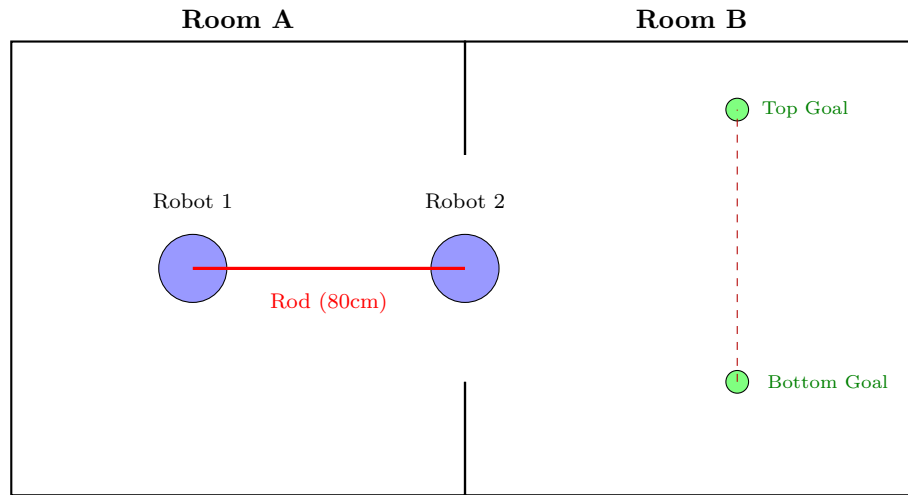

Figure 2: Task3 top view. Green circles indicate the target positions for the rod ends in Room B.
3. Task 3: Inter-Room Transport — The robots must pick up and transport the same rod from a random position in Room A to a fixed goal position in Room B by navigating it through a narrow doorway that is shorter than the rod's length (Fig. 2).